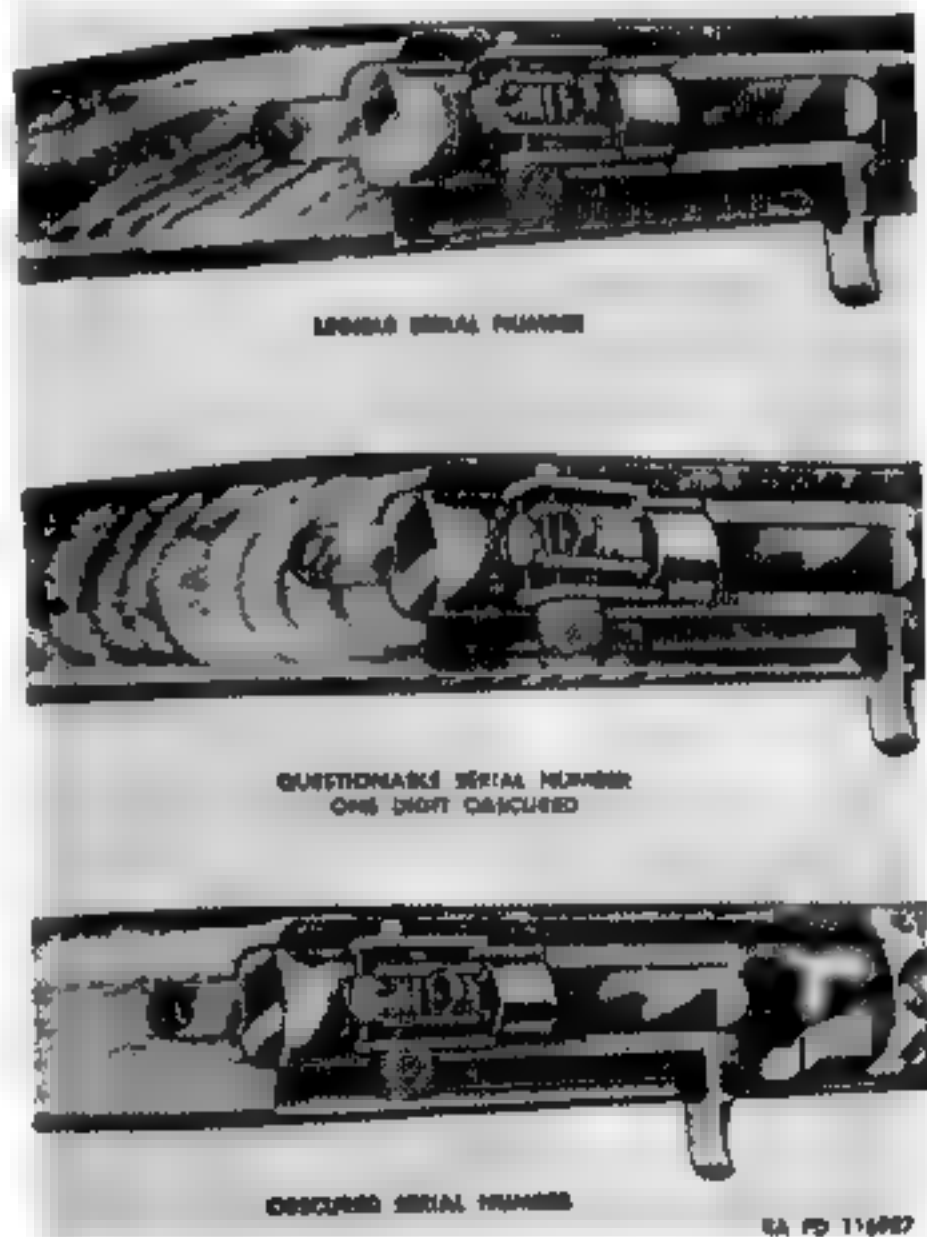
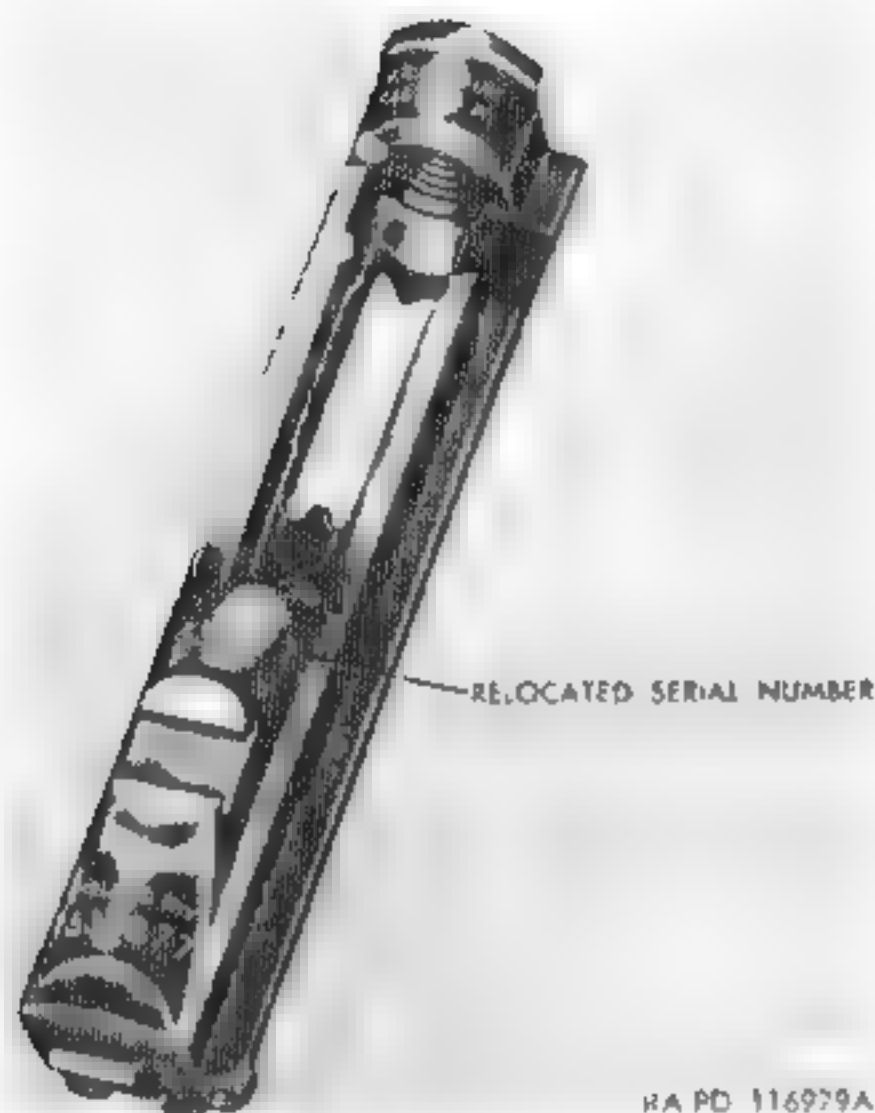

Figure 85. Serial numbers on cal. .30 carbines.
Figure 86. Relocated serial number on cal. .30 carbines.
- (2) Wash chips from reamer and chamber with lard oil after removing from chamber
- (3) Handle reamer with care to prevent it from being chipped or picked. Never turn reamer backwards in chamber as this tends to dull the cutting edges
**e. Restoring Serial Numbers (FIELD MAINTENANCE).** Serial numbers which have become obscured because of the installation of the adjustable rear sight must be restored. Since the degree of obscurity varies, this will be effected in one of two ways: (1) if the serial number is questionable (Fig. 85) (one digit obscured), use white graduation filler 52-F-100-230, listed in Department of the Army Supply Catalog ORD 3 SNLK-1, to improve the legibility; and (2) if the serial number is obscured (Fig. 85), it will be relocated on the receiver bridge directly forward of the rear sight platform (Fig. 86).
3. Manually position and space the 3/32-inch stamping fixture on the bridge of the receiver directly forward of the rear sight platform (Fig. 86). Strike the stamping fixture with one firm blow of the hammer to insure a neat and distinct impression. Repeat this procedure until all digits of serial number are transposed.